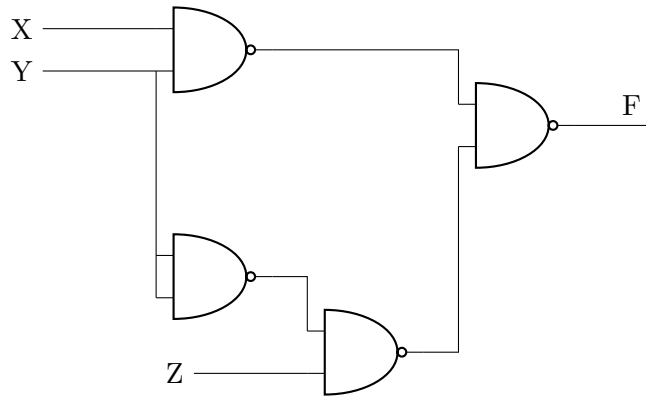

Figure 3.7:
20. Find  $F$  in the Digital Circuit given in the figure below in Fig. 3.7. (GATE IN 2016)